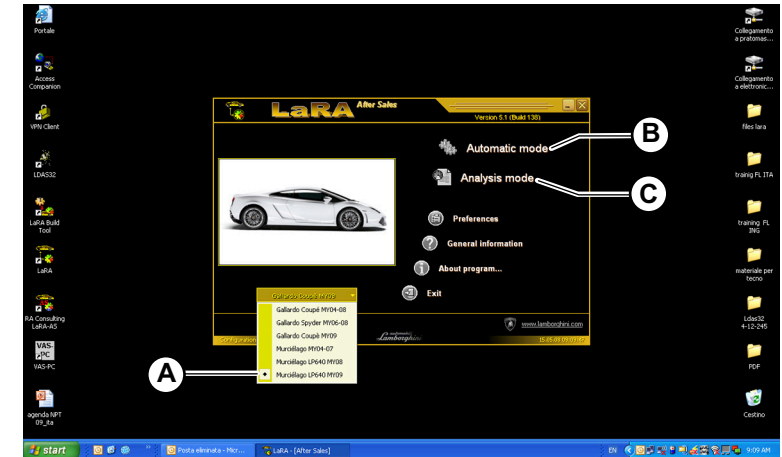

Fig.3
The selected car may be changed by clicking on the arrow next to “Murciélago LP640 MY09” (**A-Fig.3**):
- **Automatic Mode (B-Fig.3)**: allows a series of tasks to be carried out automatically such as set up for rewriting the LIE and GFA software.
- **Analysis mode (C-Fig.3)**: allows accurate control of every electronic device on board the car (see list).